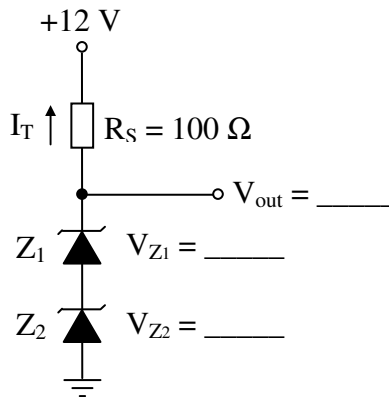

Fig. 4.6 Zener diodes in series (aiding)
Refer to Fig. 4.6 and note that when two Zener diodes are connected in series (aiding) and are reverse biased, the regulated output voltage (V_{out}) is equal to the sum of each diode’s Zener voltage ($V_{out} = V_{Z1} + V_{Z2}$). The total current (I_T) flows through each diode; therefore, $I_T = I_{Z1} = I_{Z2}$. The circuit will respond the same way as a single Zener diode regulator. This type of circuit can be used for regulation of more specific voltages; for example, a desired regulated voltage of +14 V could use a 5-V Zener and a 9-V Zener or a +21-V output might use a 9-V Zener and a 12-V Zener.
1. Construct the circuit shown in Fig. 4.6.